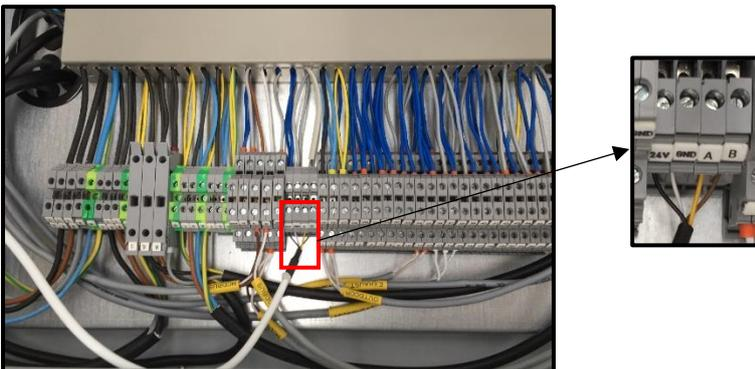

Fig. 17
3. Connect the HMI cable to the marked terminals in the terminal box. (Fig. 17)